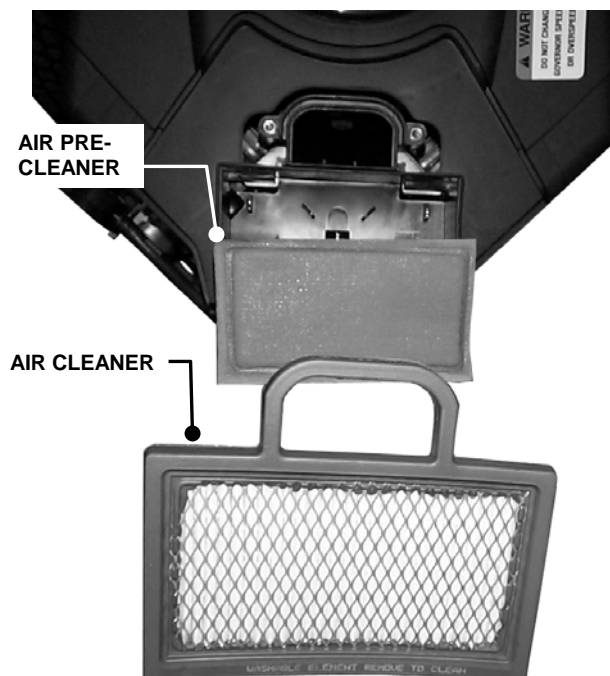

FIGURE 3.5
- Refer to engine owner's manual for cleaning and service instructions. Remove and clean engine air pre-cleaner. Remove and replace engine air cleaner. See Figure 3.5. Install pre-cleaner and air cleaner per engine owner's manual.